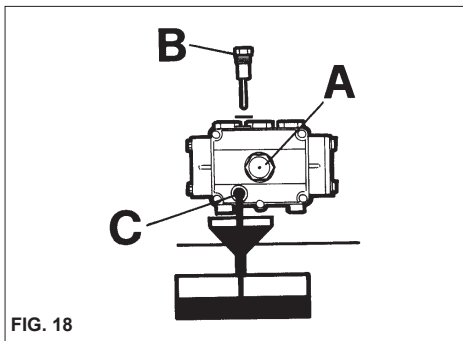

FIG. 18
- 2) Unscrew the cap with the dipstick (fig. 18).